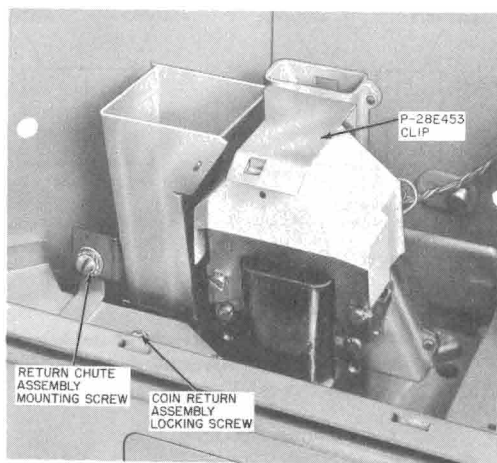

Fig. 18—Coin Relay and Return Chute Assembly
4.14 To remove return chute assembly (Fig. 18):
4.16 To remove coin relay (Fig. 18):
- (3) Install dust cover and P-28E453 clip (Fig. 18).
- (4) Install return chute assembly (4.15).
- (1) Remove return chute assembly (4.14).
- (2) Remove coin return assembly locking screw (Fig. 18).
- (3) Insert finger in coin return and tilt top forward.
- (4) Lift coin return. Pull coin return assembly out and up.